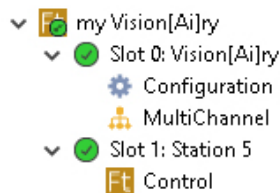

Figure 37 - Opening the MultiChannel Page in DashBoard
1. In the DashBoard tree, expand the Vision[Ai]ry node and the **Slot 0** node fully, and then double-click **MultiChannel** (Figure 37).